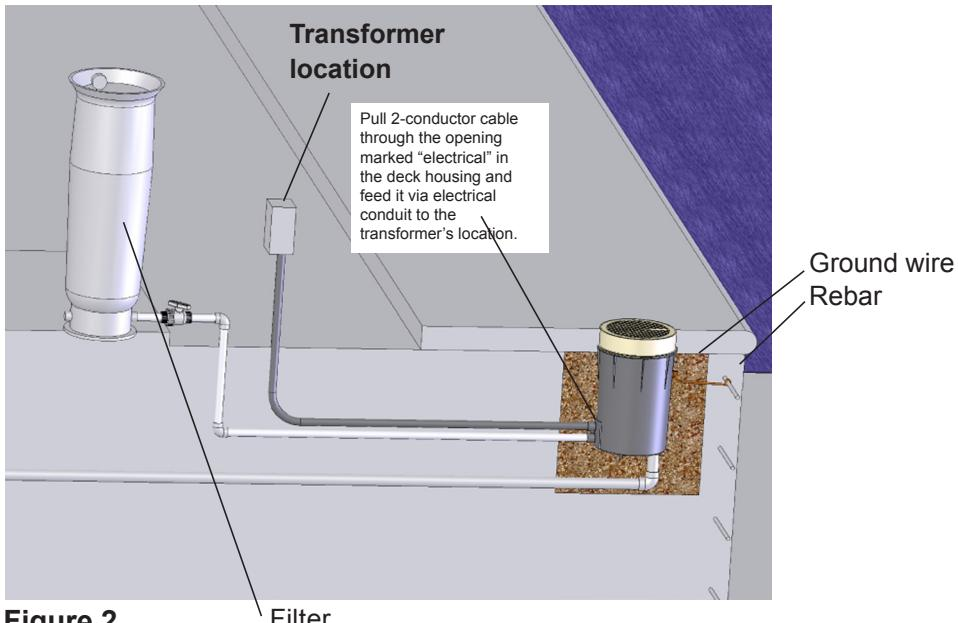

Figure 2
1. Pull the 14 gauge, 2-conductor cable through the opening marked “electrical” in the deck housing and route it, via electrical conduit, to the transformer location (Figure 2). Leave 1 meter of slack at the deck housing end to allow for servicing.